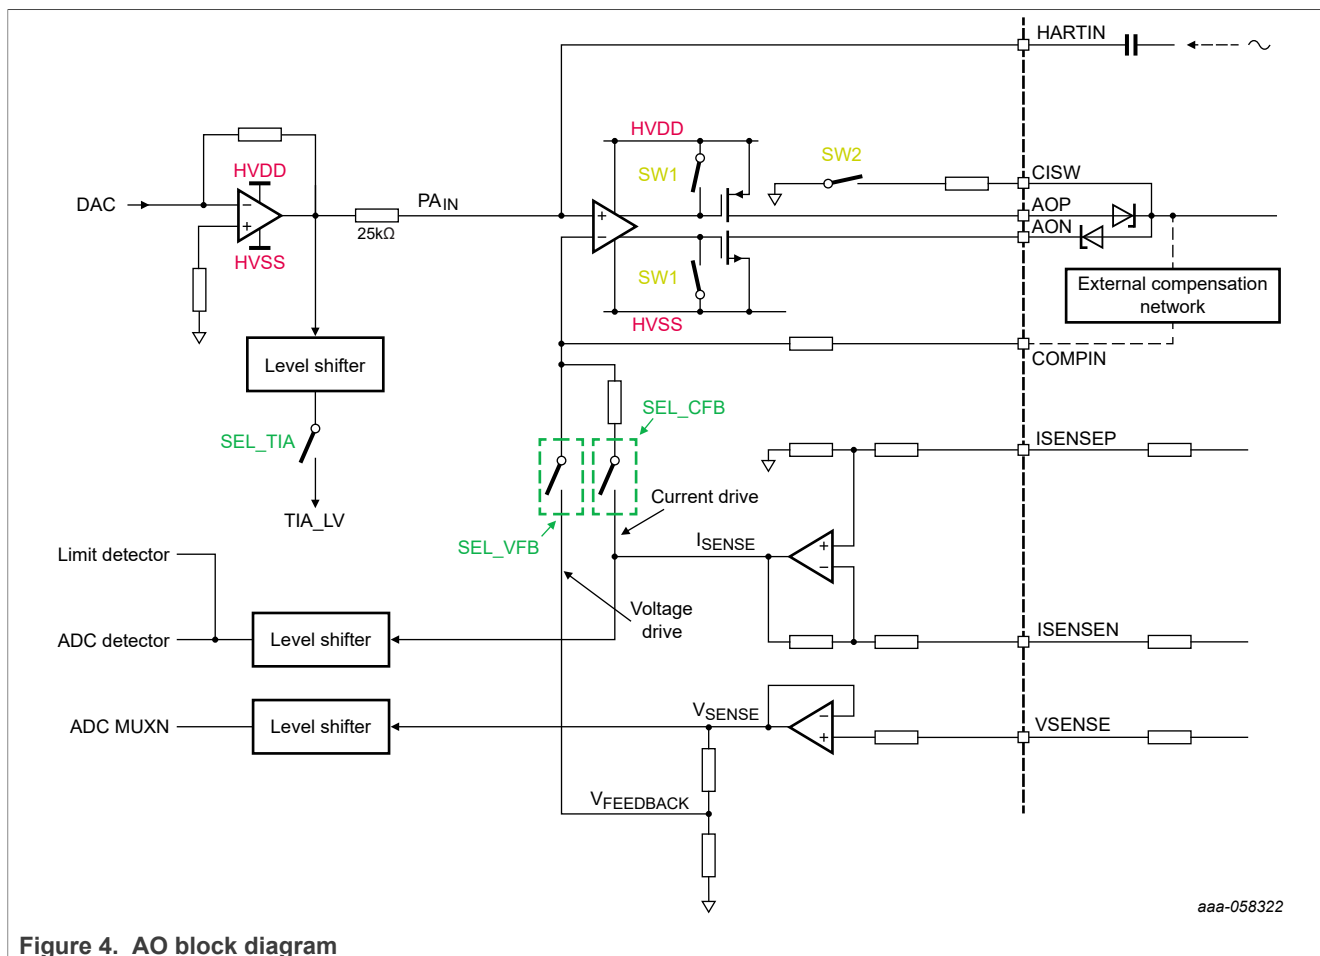

Figure 4. AO block diagram
As shown in Figure 4, an on-chip precise DAC is used as output signal source followed by gain stage and power amplifier. The power amplifier can be configured for voltage output, current output, or high-impedance (Hi-Z state). The output of voltage feedback amplifier (VFB) and current feedback amplifier (CFB) is routed to ADC for the user to read-back. The CFB amplifier output is also used to monitor current limits and trigger protection mode to avoid damage in the system.
As shown in Figure 4, there are several switches in the output stage which allow different modes of operation: AO pin - high-Z, voltage output (VO), current output (CO), voltage input (VI), current input (CI).